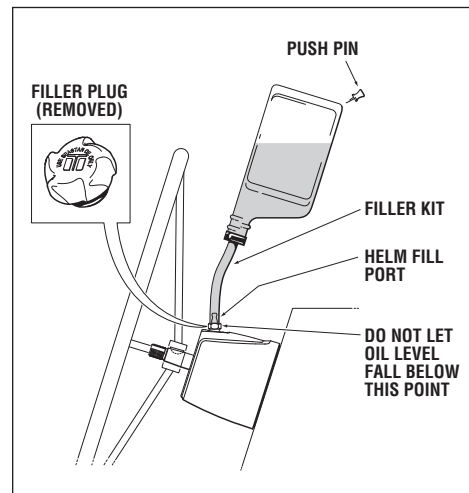

Figure 4.
- Fill the helm pump full of oil (refer to figure 4). Oil should always be visible in the filler tube. Use the next bottle at any time throughout the procedure when the oil level drops in the filler tube. Do not proceed with step two until helm is full of oil.